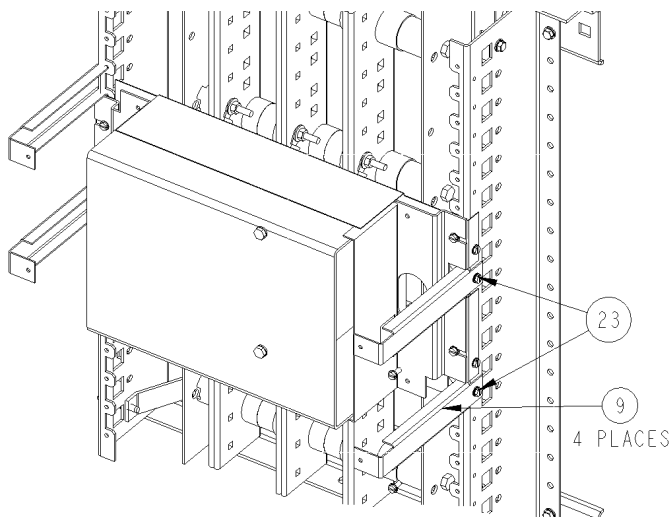
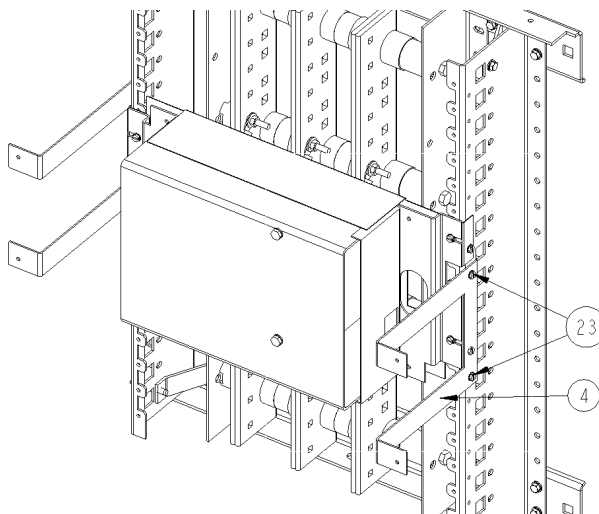

Figure 12. Filler supports for 27 and 31 wide panelboard or 35 wide switchboard.
Figure 13. Filler supports for 36, 40, and 44 wide panelboard or 40 and 45 wide switchboard.
- 8. Install the filler supports.** For 27W, 31W, and 35W panels, mount four filler supports [9] to the Z rail of the vertical bus interior, as shown in Figure 12. For 36W, 40W, 44W, and 45W panels, mount two filler supports [4] to the Z rail, as shown in Figure 13. Secure the supports with 10-32 x 7/16" thread-forming screws [23] and tighten to 22 in-lb.